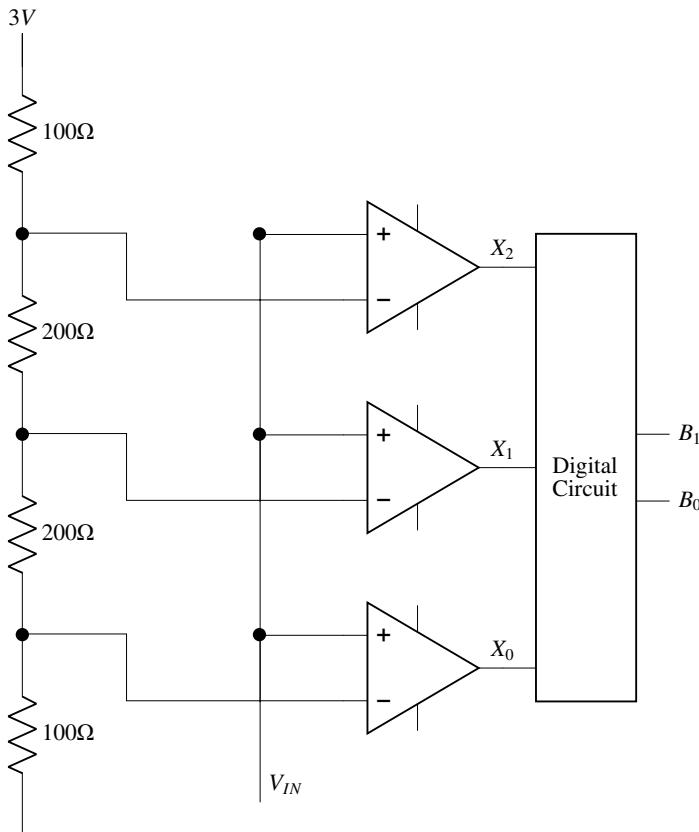

Fig. 3.32
49. A 2-bit flash Analog to Digital Converter (ADC) is given in Fig. 3.32. The input is $0 \leq V_{IN} \leq 3$ Volts. The expression of the LSB of the output B_0 as a boolean function of X_2 , X_1 , and X_0 is